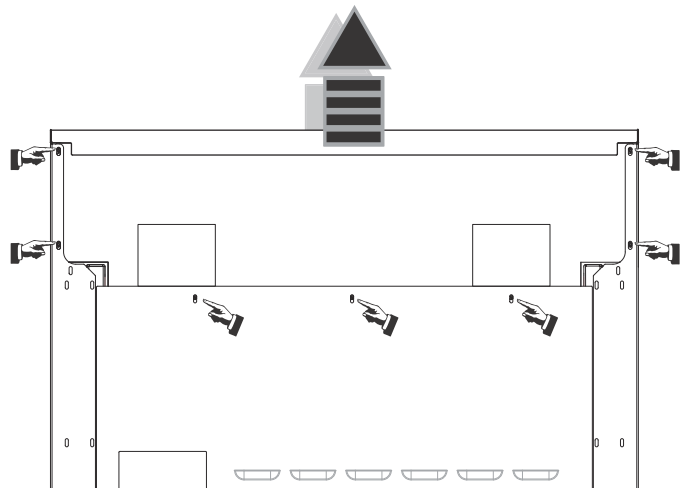

Figure 28: Flush Island Trim Rear Screw Removal
2. Remove the (4) drill point screws securing the trim to the side panels, and the (3) or (4) drill point screws securing the piece to the back panel. Lift up to fully remove (*Figure 28*).